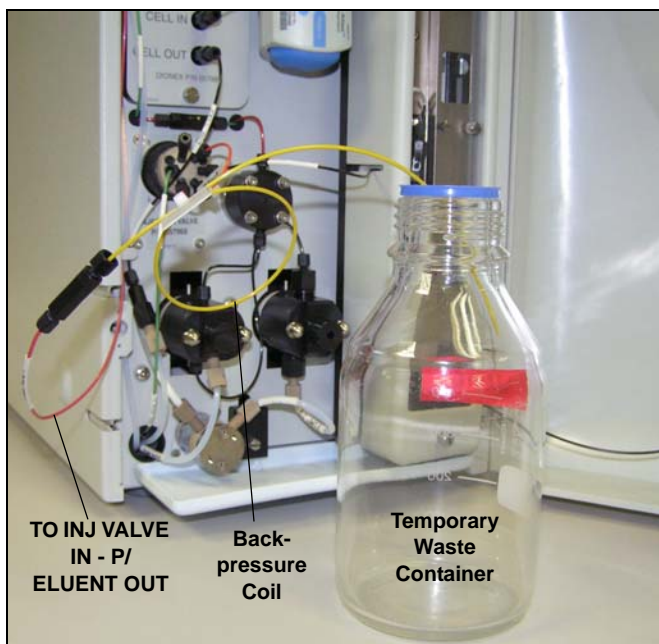

Figure 5-56. Plumbing Connections for Conditioning the Dionex EluGen Cartridge with Carbonate Eluent
3. Use the coupler to connect the **TO INJ VALVE IN - P/ELUENT OUT** line to one end of the backpressure coil (see Figure 5-56).